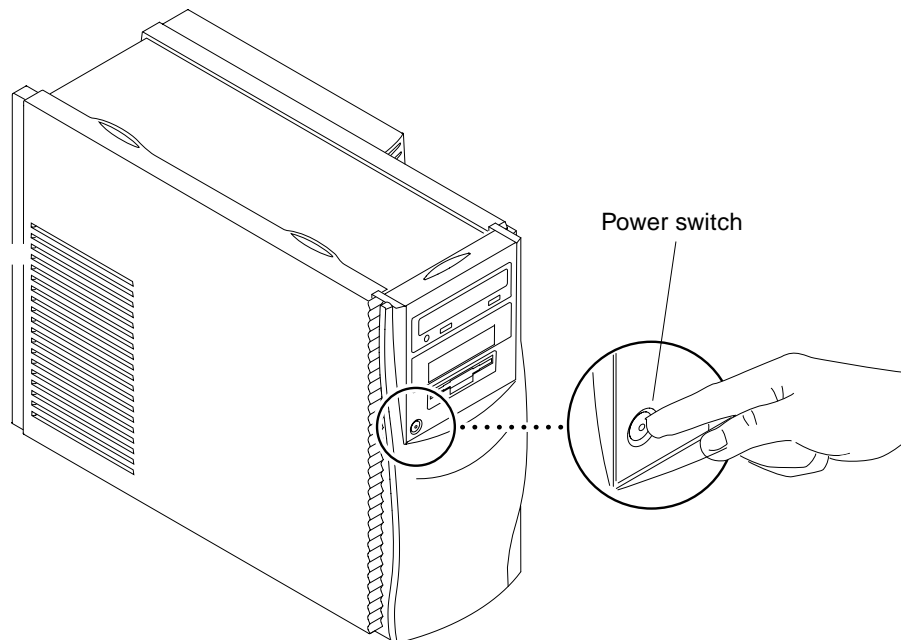
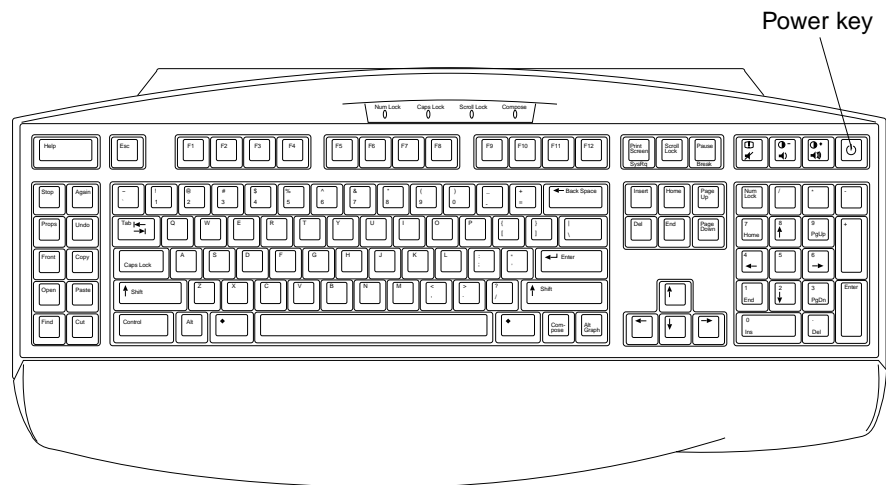

FIGURE 2-1 System Power
FIGURE 2-5 Type-6 Keyboard
3. **Momentarily press the front panel power switch (FIGURE 2-1) and follow the instructions on the screen.**
9. Momentarily press the power switch (FIGURE 2-1) or the Type-6 keyboard power key (FIGURE 2-5).